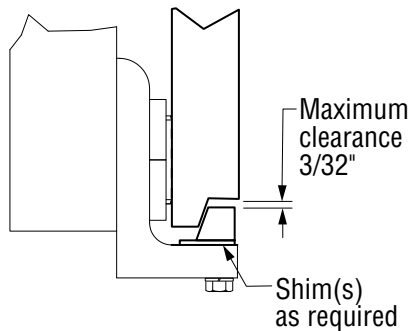

Figure 3-3, Lower Hook Clearance
10. Install the bolt-on lower hooks. Inspect clearance to the carriage on lower hooks. Adjust the lower hooks for a maximum clearance of $3/32$ " (see Figure 3-3. Tighten the bolts to **40-50 ft-lbs**.